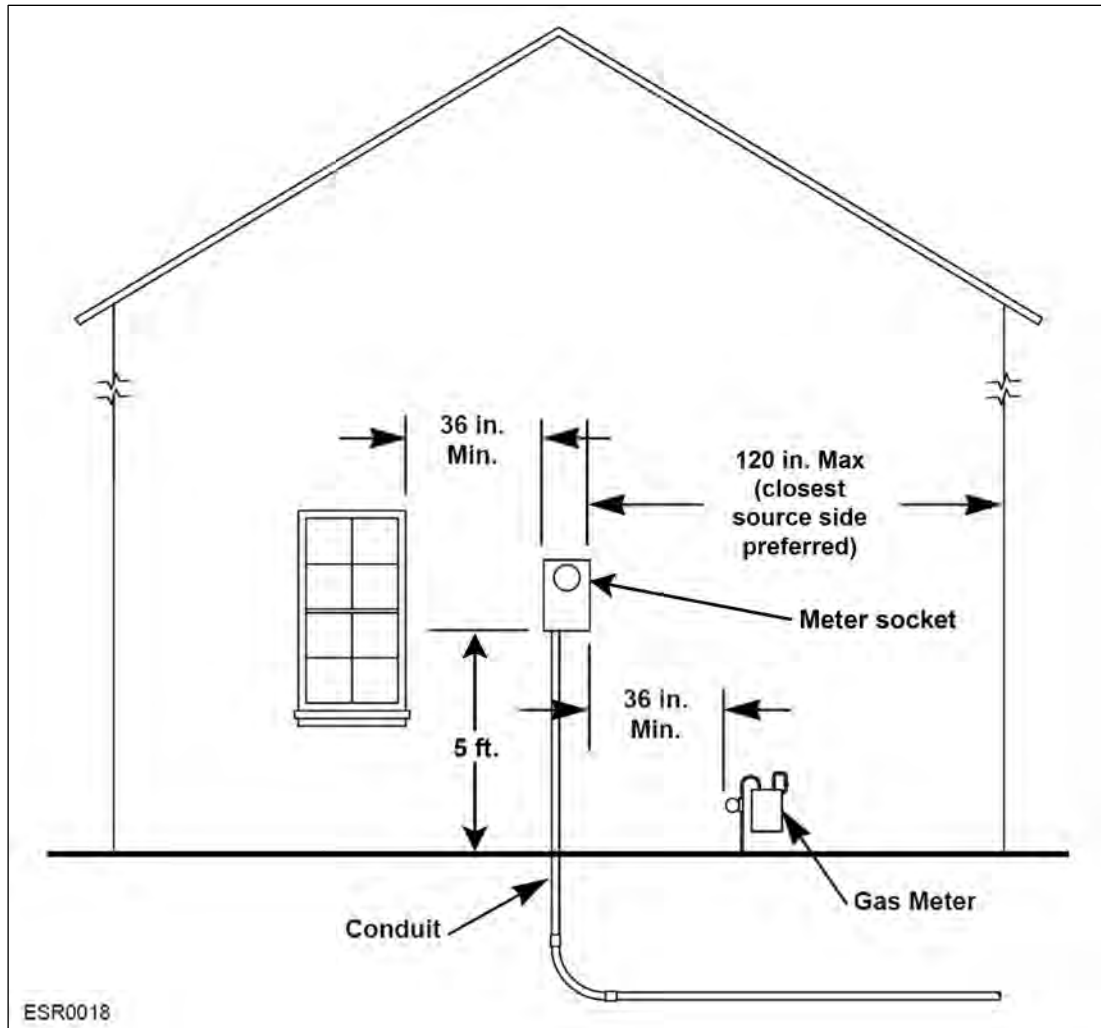

Figure 35: Underground Service Extension
Figure 35 shows a typical installation of an underground service extension to the house.
- The service entrance riser must be in line with the left side of the entrance knockout. (See **Figure 35**.) For detailed clearance requirements, see Section 5, *Clearances*.